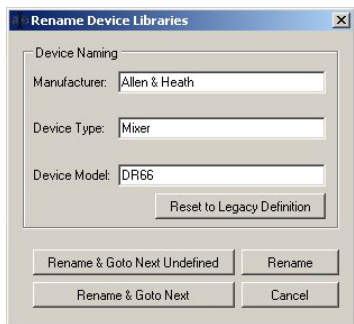

FIG. 33 Rename Device Libraries Dialog
2. Right-click the device with undefined fields, and select **Rename Device(s)**. The Rename Device Libraries dialog opens (FIG. 33).